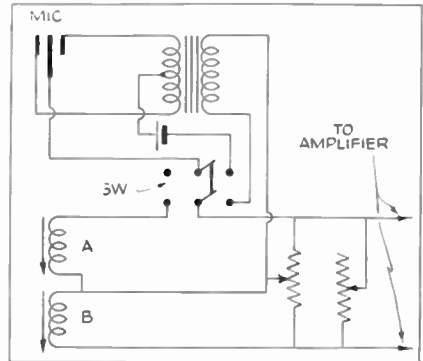

Fig. 39
(A) The simplest means is to connect a potentiometer, R1, as shown in Fig. 39. The total resistance of this unit may be from 25,000 to 100,000 ohms. The double-pole double-throw switch may be used to cut the microphone in and out of the circuit, the changeover to be made while pickup B is in use. The variable resistor, R2, is optional; it simplifies the task